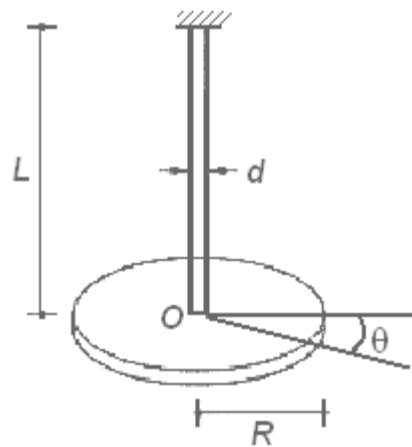

Figure 1:
6. A rigid disk of mass m is mounted at the end of a flexible shaft as shown in figure 1. Neglecting the weight of the shaft and neglecting damping, derive the Equation of free torsional vibration of the disk. The shear modulus (of rigidity) of the shaft is G . [16]